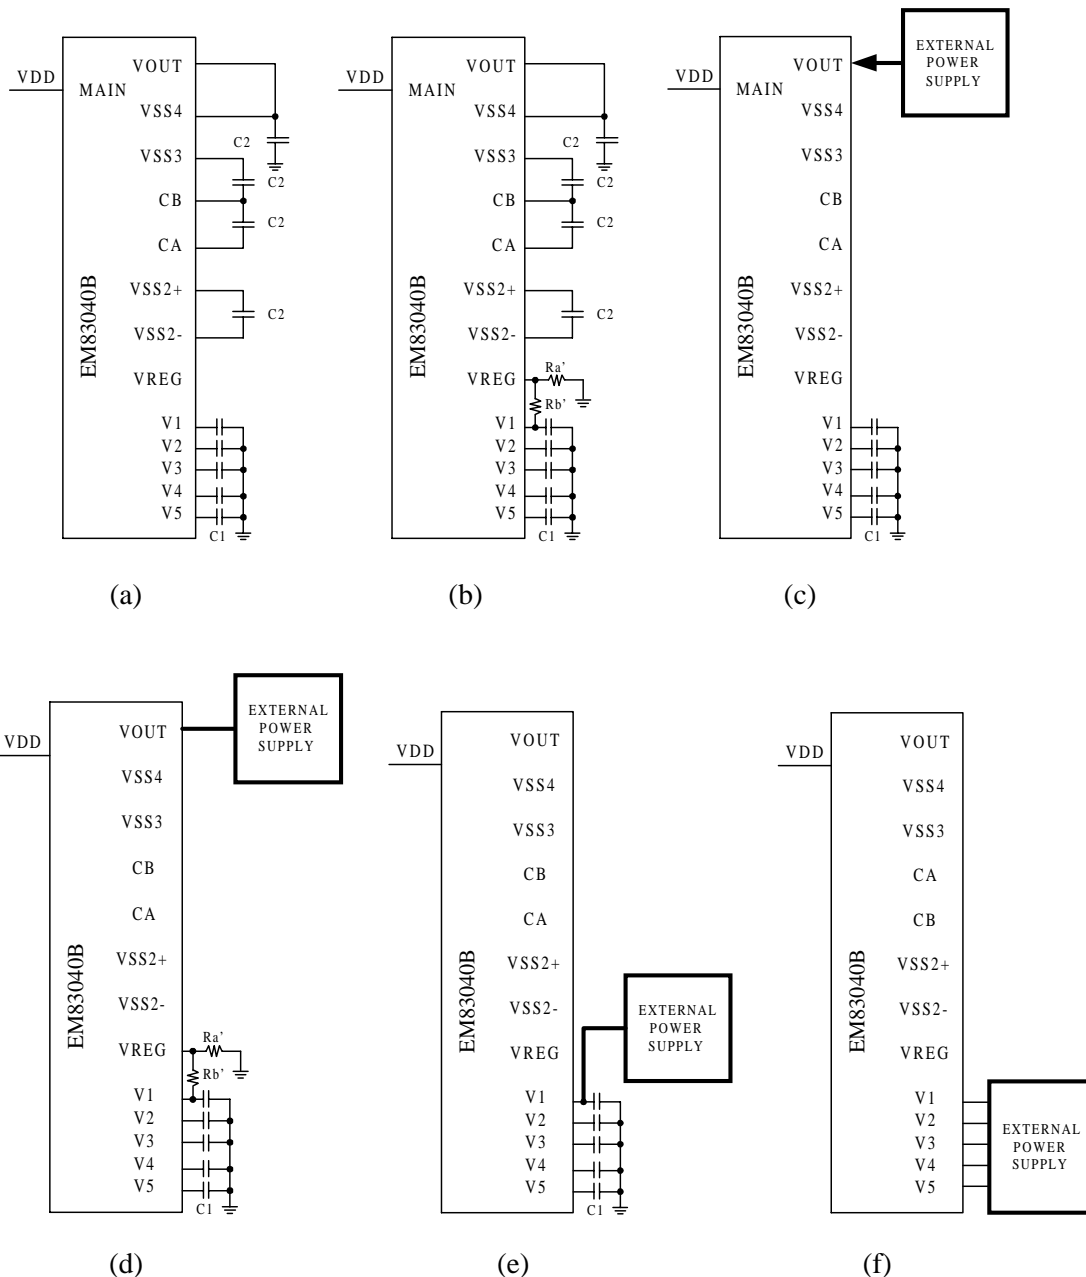

FIG. 10
(9) Reference circuit examples are as following FIG. 10